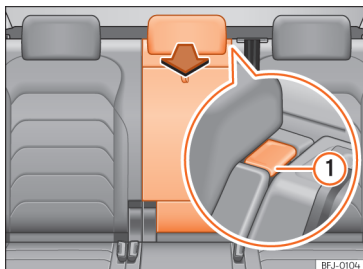

Fig. 165 On the rear seat backrest: opening the tailboard for long objects.
- Press the unlocking button >>> **Fig. 165** ① and fold the tailboard forward >>> ⚠.